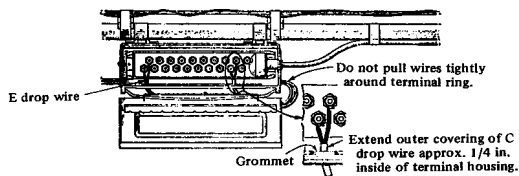

FIGURE 7—Terminating Wires at Terminals
- c. Insert the wire through the grommet as illustrated in Figure 7, and terminate it on the binding posts in the usual manner.